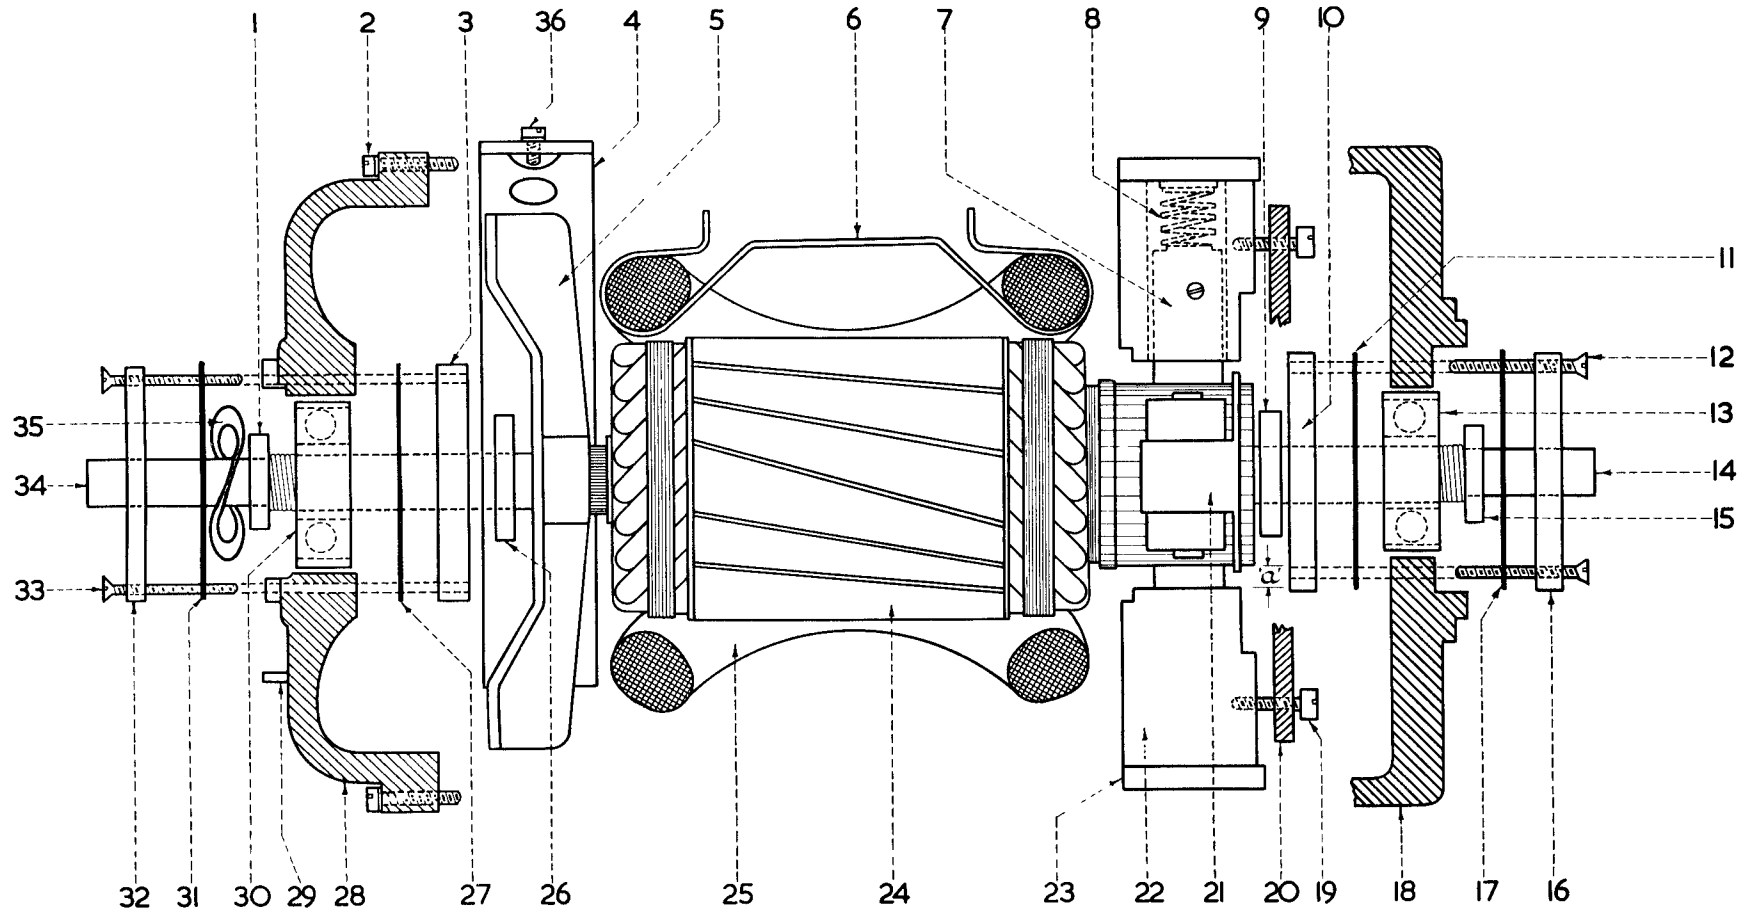

Fig. 1. DIAGRAM OF KBF MOTOR.
### B. DISMANTLING INSTRUCTIONS (Fig. 1)
### **C. ASSEMBLING INSTRUCTIONS (Fig. 1)**
14. At the commutator end of the shaft, repeat instruction 7 above in respect of bearing clamp plate (10) and gasket (11).
15. Repeat instruction 8 above in respect of commutator-end plate (18).
16. Replace the armature in the motor frame, threading the screwed rod through a screw hole in the commutator-end plate (18) and lightly and evenly entering ball bearing (13) into its housing.
17. Holding the motor in one hand, fan end upwards, tap end (34) of the shaft with the hide mallet so that bearing (13) fully enters its housing in the commutator-end cover.
**N.B.** During operation 17, which should be done very carefully, see that the fan-end cover beds evenly over the flange of the motor frame with the respective screw holes in both parts registering accurately. See also that the fan-end cover is so located that the projecting pin (29) will, when the motor is refitted on its machine, be directly below the axis of the armature shaft.
18. Replace the four screws and washers (2). Tighten the screws in turn, a little at a time.
19. Repeat instructions 11, 12 and 13 at the commutator end of the machine in respect of gasket (17), bearing cap (16), i.e. *the thicker of the two bearing caps*, screws (12), commutator-end plate (18) and clamp plate (10).
20. Restore the brush boxes (22) to their mounting plate (20) with the fixing screws in their respective slots, taking care that the washers are between the screw heads and the plate. Slide the boxes inwards until, as measured with a feeler gauge, they are .010" to .015" (.25 to .38 mm.) from the commutator, i.e. dimension 'a'. Tighten the screws (19) and remove the gauge.
D. PART LIST (Fig. 1)
## D. PART LIST (Fig. 1) (continued)